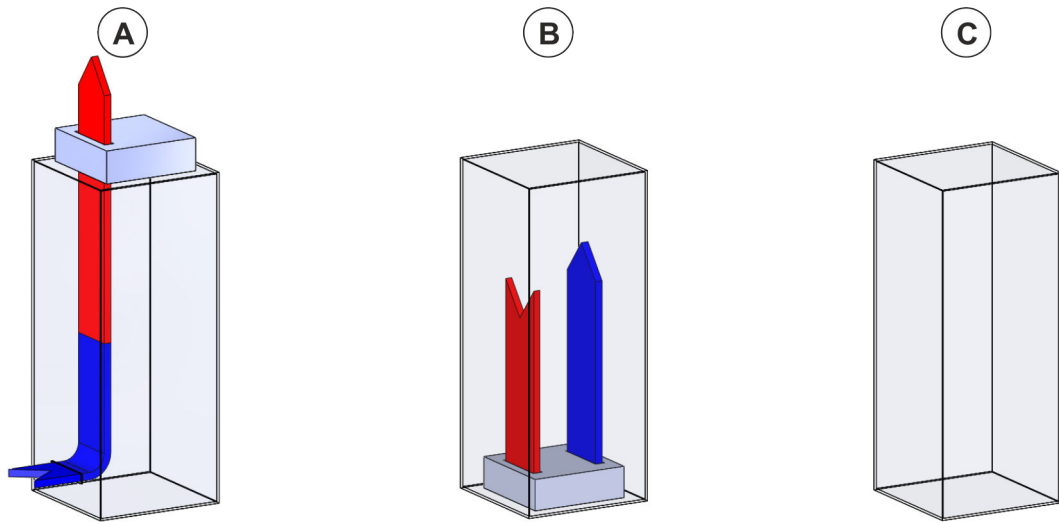

Fig. 18: Cooling air circuit 19" cabinet
- Operation only in closed cabinets. If cooling units are installed, make sure that no air exchange with the ambient air takes place (Fig. 18).